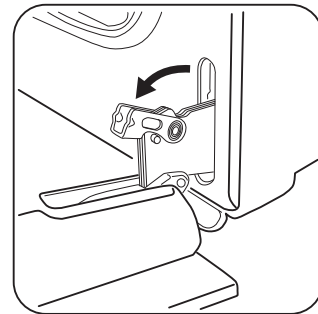

Figure 31: Door hinge locks
2. Lift and turn/pull the levers on both of the door hinge locks down from the oven frame completely towards the oven door (Figure 31). A tool such as a small flat-blade screwdriver may be required.
4. Lift and turn/push the levers on both of the door hinge locks up towards and into the oven frame to the locked position (Figure 31).